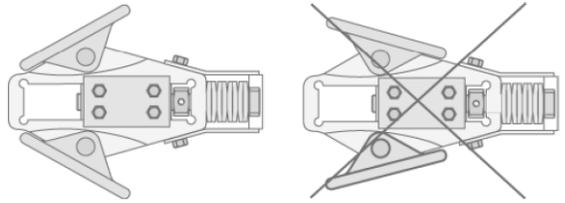

Figure 1. Block position during coupling
- Pivot the adjusting blocks (6) to the coupling position (see Fig. 1 for example).